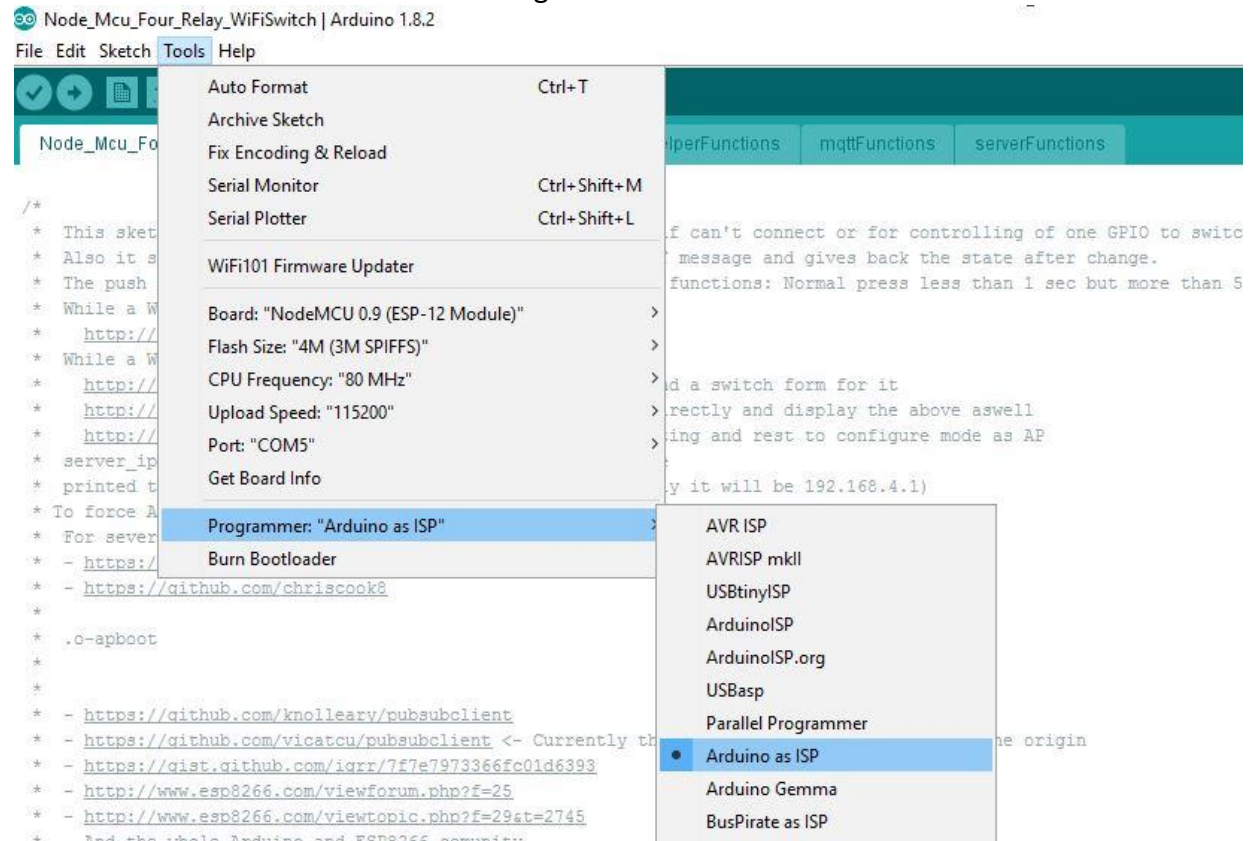

Figure 10: IDE Selection
10. Click on tools tab, move mouse pointer to “Programmer: “Arduino as ISP””, under this click on “Arduino as ISP” to select. Refer to figure 10.